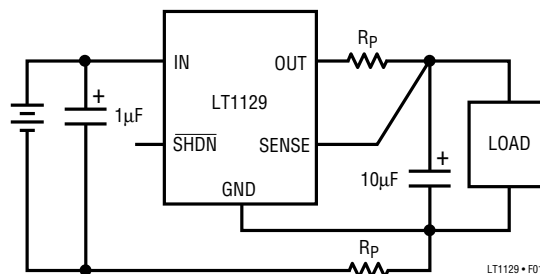

Figure 1. Kelvin Sense Connection
**Sense Pin:** For fixed voltage versions of the LT1129 (LT1129-3.3, LT1129-5) the sense pin is the input to the error amplifier. Optimum regulation will be obtained at the point where the sense pin is connected to the output pin. For most applications the sense pin is connected directly to the output pin at the regulator. In critical applications small voltage drops caused by the resistance ( $R_P$ ) of PC traces between the regulator and the load, which would normally degrade regulation, may be eliminated by connecting the sense pin to the output pin at the load as shown in Figure 1 (Kelvin Sense Connection). Note that the voltage drop across the external PC traces will add to the dropout voltage of the regulator. The sense pin bias